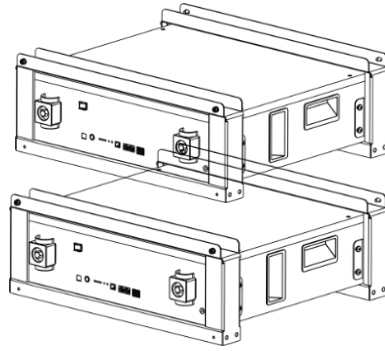

Figure 3-3
1. A48100 brackets The A48100 bracket is shown before installation as shown in figure3-3.